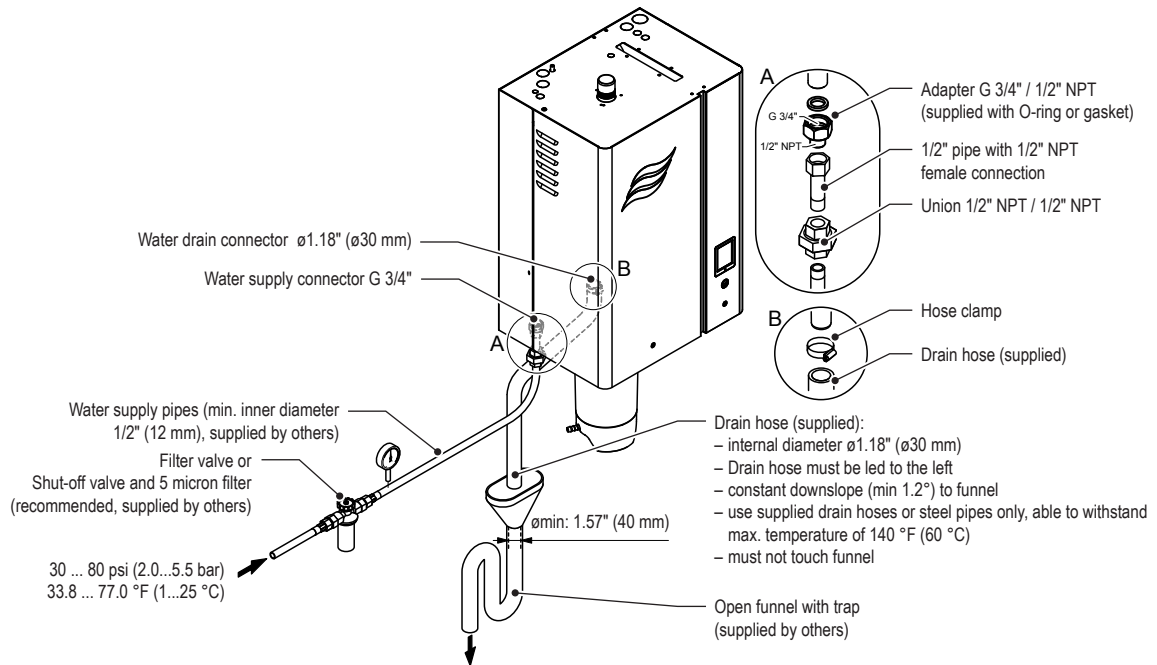
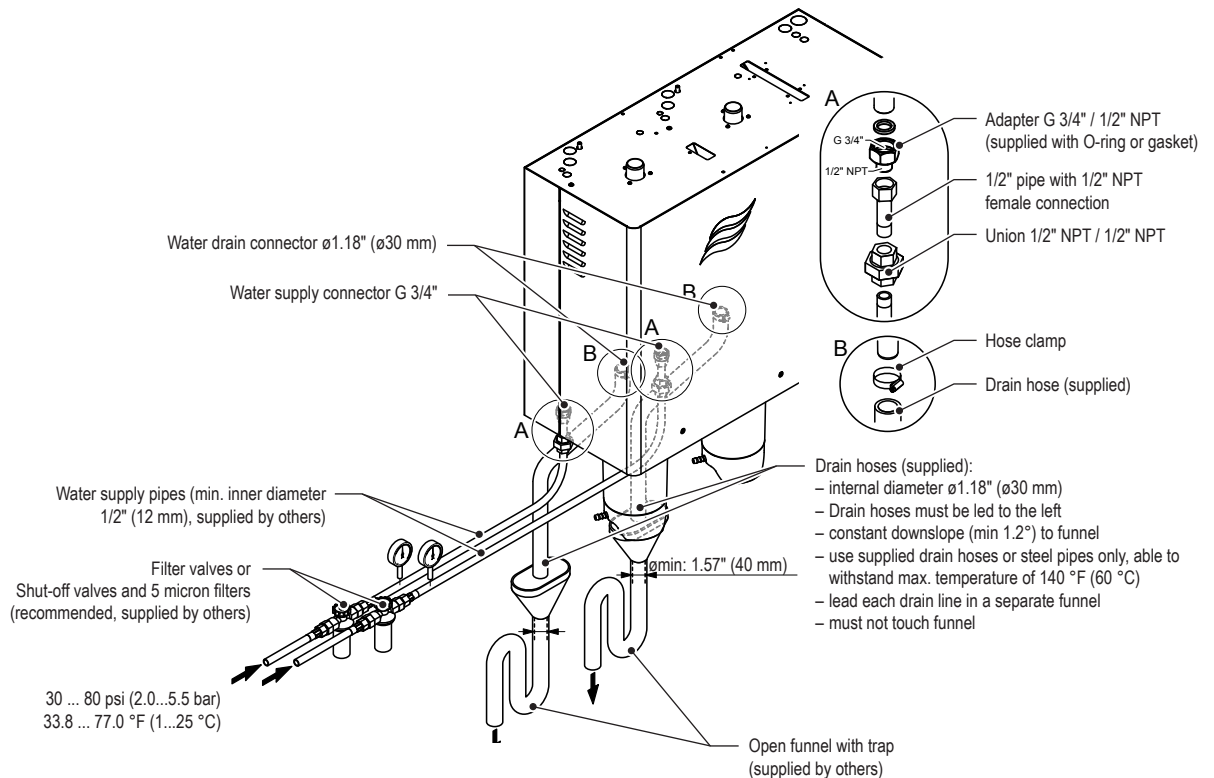
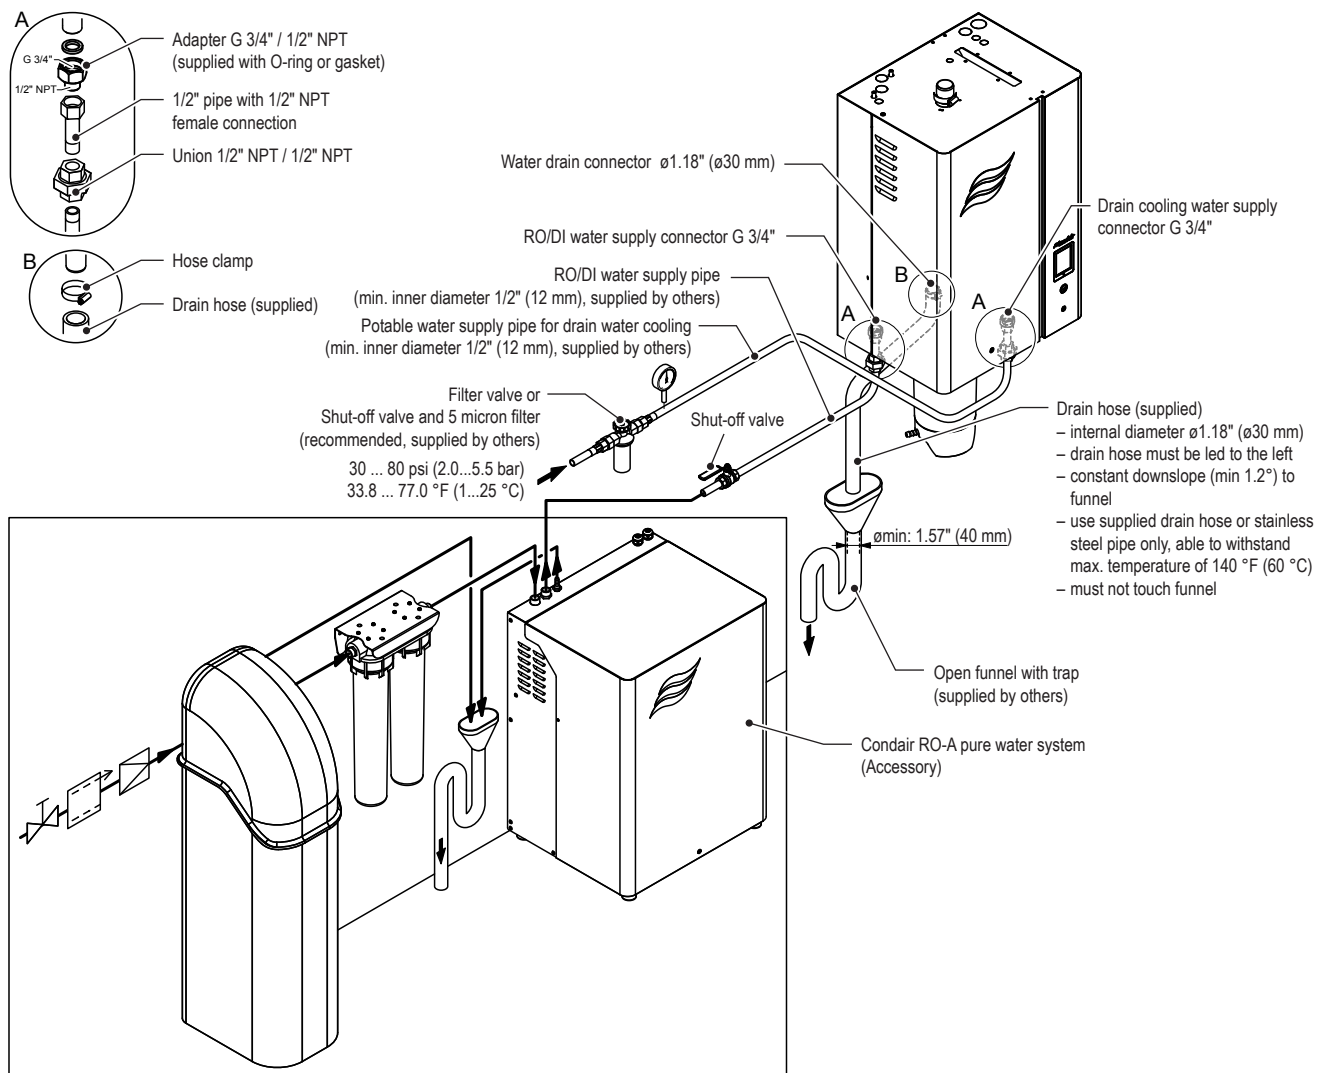
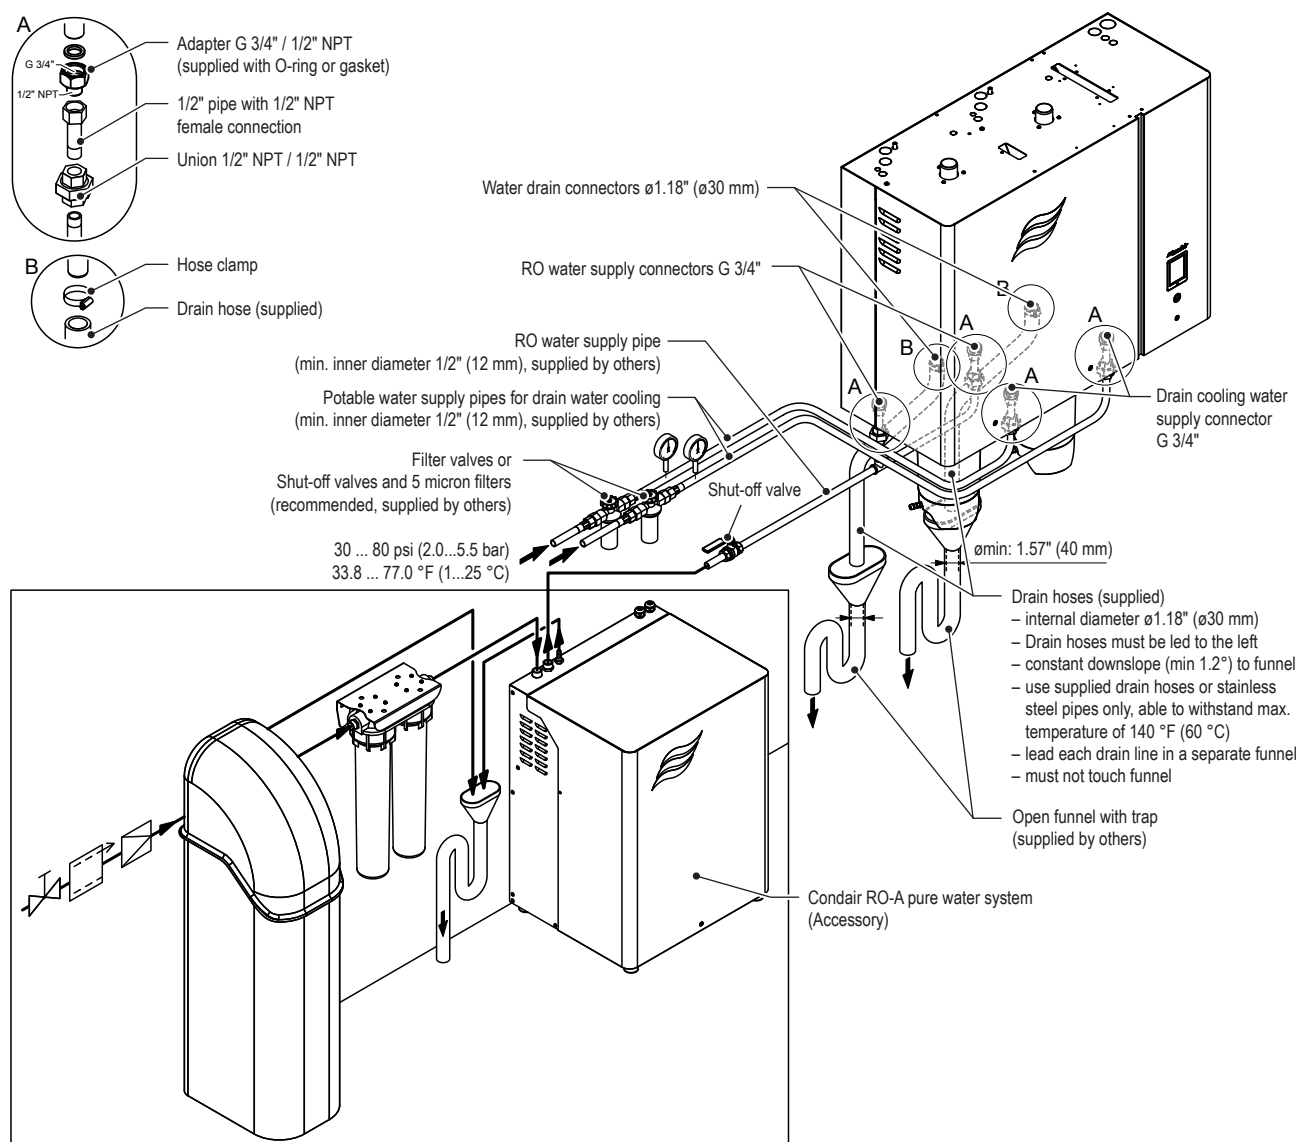

Fig. 17: Overview water installation for single units Small and Medium
Fig. 18: Overview water installation for single units Large
Fig. 19: Overview water installation for single units Small and Medium (with RS-RO option installed)
Fig. 20: Overview water installation for single units Large (with RS-RO option installed)
The water supply is to be carried out according to Fig. 17 and Fig. 18 or Fig. 19 and Fig. 20 and the applicable local regulations for water installations. The indicated connection specifications must be observed.
With the RS-RO option installed the water supply and the drain cooling water supply are to be carried out according to Fig. 19 and Fig. 20 and the applicable local regulations for water installations. The indicated connection specifications must be observed.
- The RO water supply must be connected to the inlet connector(s) according to Fig. 19 and Fig. 20. Use only installation material that is approved for RO or DI water to connect the RO-A pure water system to the Nortec RS. All water supply requirements outlined in Section 5.6.3.1 must also be adhered to with the RO or DI water supply.
The separate drain cooling water supply must be connected to the optional drain water cooling inlet valve(s) provided with the RS-RO option according to Fig. 19 and Fig. 20. Please observe the following notes regarding the drain cooling water supply installation.
- Always lead the supplied drain hose from the connector to the left down to the funnel (see Fig. 17).
On large units with two steam cylinders each drain line must be led into a separate funnel with trap (see Fig. 18).
- ☐ Has RO water supply been connected to the water inlet connector according to Fig. 19 and Fig. 20 and has installation material been used approved for use with RO water?